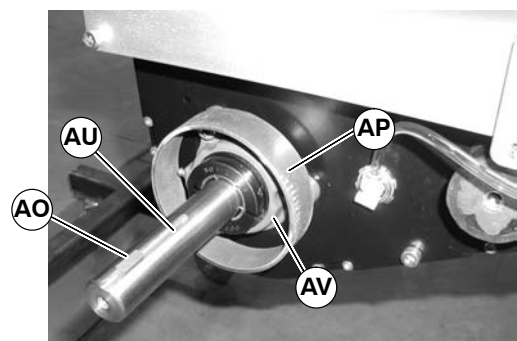
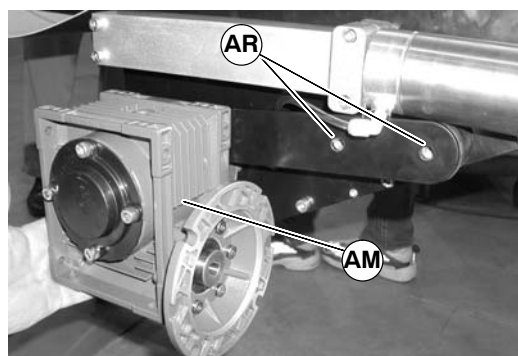

Figure 19
Figure 21
3. Install key (AO of Figure 19) on drive shaft(AU). Install cover (AP) over bearing housing (AV).
5. Slide gearmotor (AM of Figure 21) on to drive shaft (AU of Figure 19). Tighten mounting screws (AR) to 200 in-lbs (22.5 N-m).